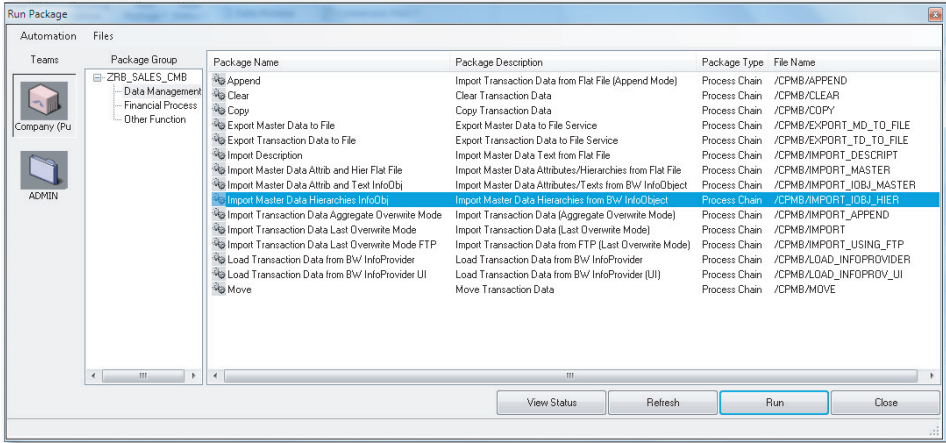

Figure 4.44 Loading Hierarchy Data from an InfoObject into a Dimension—Part C
5. You're now ready to execute the Data Manager package to load the hierarchy data for the account dimension from SAP NetWeaver BW. Click on the RUN PACKAGE menu option in the DATA MANAGER tab to execute a Data Manager package. In the dialog box that lists the Data Manager packages, select the DATA MANAGEMENT group, and execute the IMPORTMASTERDATA HIERARCHIES INFOOBJ Data Manager package (Figure 4.44). This Data Manager package uses the /CPMB/ IMPORT_IOBJ_HIER process chain and is available to load hierarchy data from a BW InfoObject. Click on NEXT. This opens the RUN PACKAGE dialog box to select the InfoObject and hierarchy selections to use when loading data.